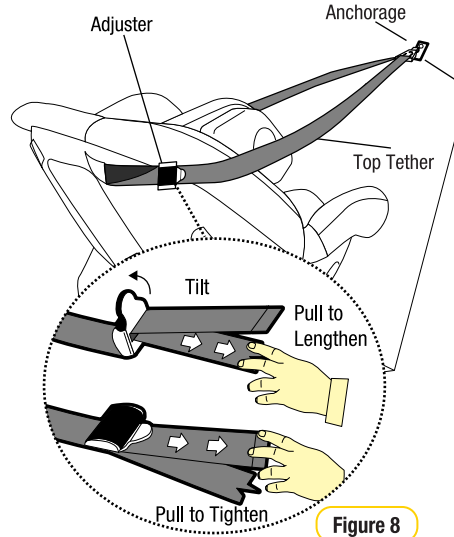

Figure 8
Step 8: Pull to tighten to remove all the slack, from the upper anchorage strap. Do not overtighten as this could cause the restraint to lift off the vehicle seat (refer Figure 8).